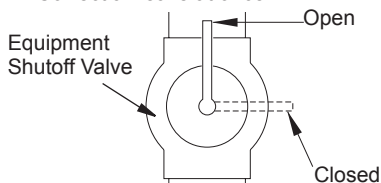

Figure 11 - Equipment Shutoff Valve
1. Close equipment shutoff valve (see Figure 11).
1. Open equipment shutoff valve (see Figure 11, page 12).
3. Close equipment shutoff valve (see Figure 11, page 12).